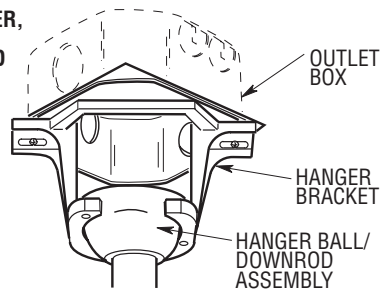

Figure 9
- 2. Carefully lift the fan and seat the hanger ball/downrod assembly on the hanger bracket that was just attached to the outlet box. Be sure the groove in the ball is lined up with the tab on the hanger bracket (Figure 9).